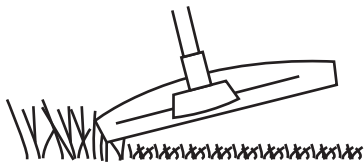

Fig. 22
1. Attach the trimmer head (18) to cut smaller types of weed, lawn grass or similar soft vegetation. Make sure that the guard (17) has been attached properly.
4. Hold the trimmer head (18) just above the ground at an angle of approximately 30° (Fig. 22).